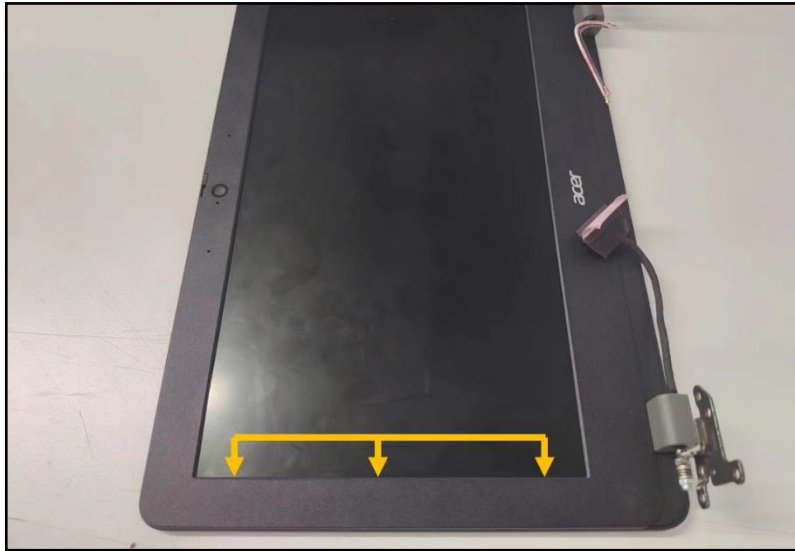

Figure 3-45. LCD Panel Removal
3. Pry the latches on the left side of the LCD panel as shown in Figure 3-45.